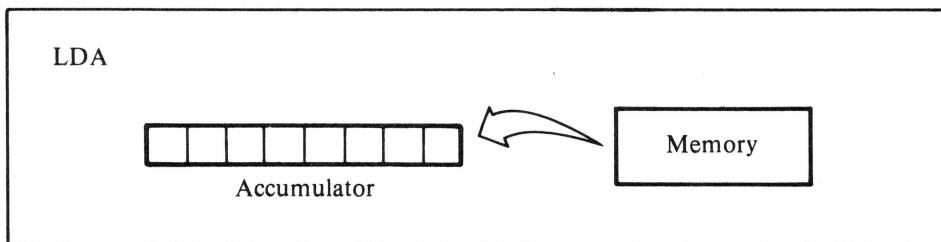

Figure 8-1. Load accumulator from memory
- LDA — Loads accumulator from memory. This transfers the contents of a memory location to the 6502's accumulator register (see Figure 8-1).